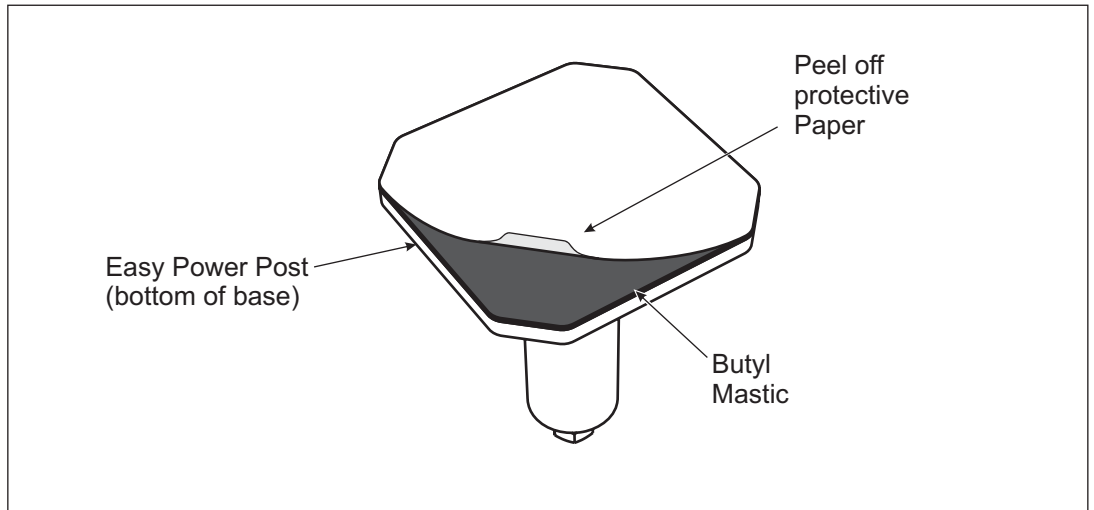

Figure 1: Removing Protective Paper
- A. From the bottom of Easy Power Post, peel off the protective paper backing that protects the butyl mastic. (See Figure 1)